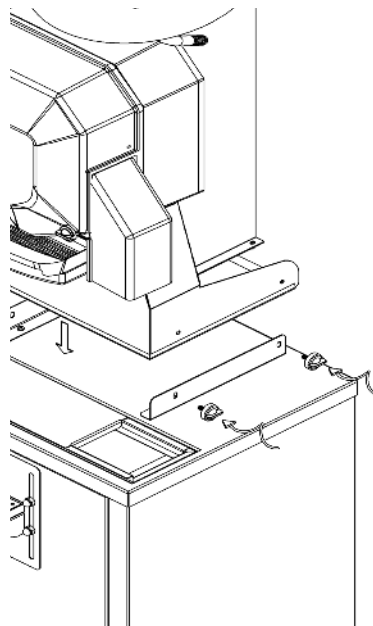

Figure 2
If you have purchased the Mobile Car with your machine; before putting your machine on your mobile, take the wheels of your mobile car into the braked position. Put your machine on the mobile car and make sure that the L metal sheets (09-10) stay inside. Align the holes on the foot with the holes on the L Iron Sheet to the same axis and fix it with the male screws (23) **(Figure 2).**